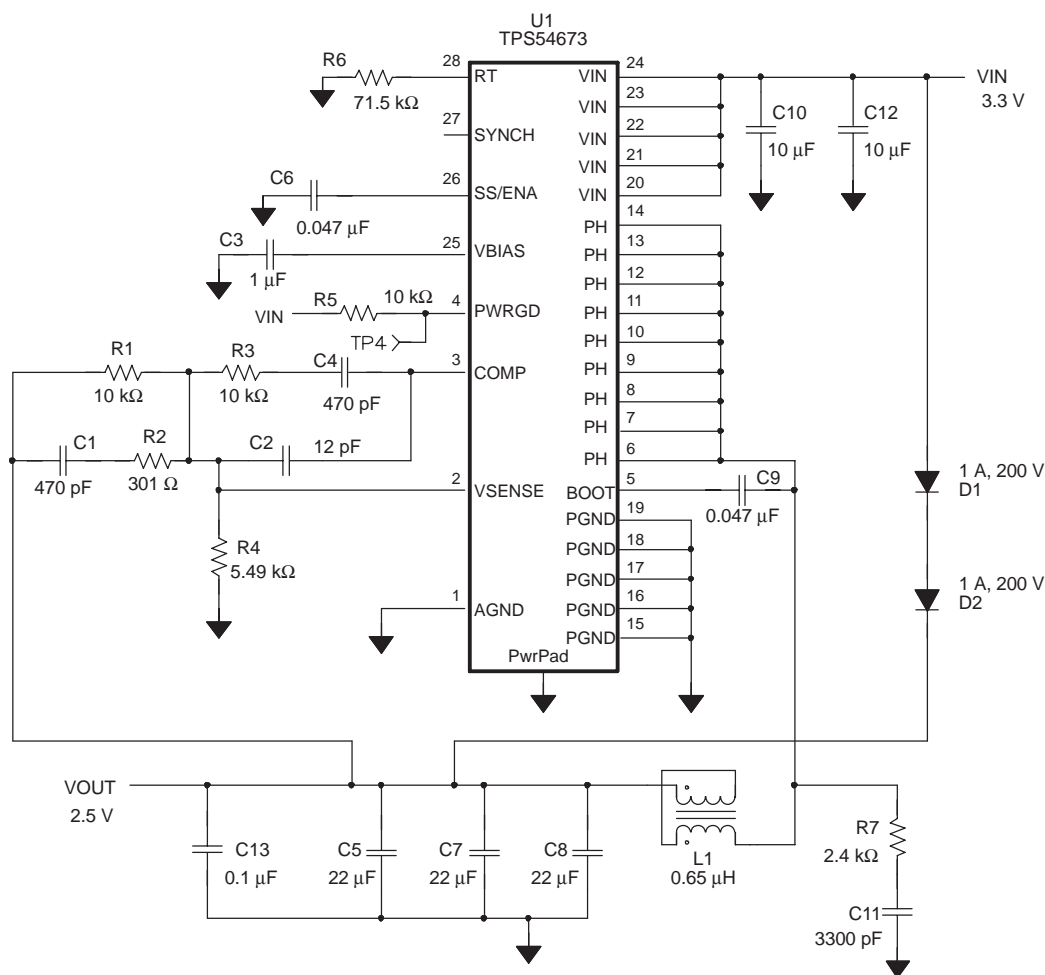
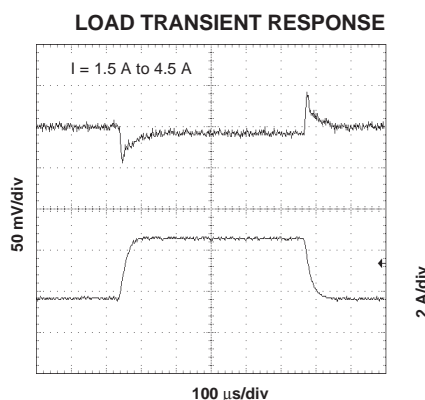

Figure 10. Application Circuit
Figure 19
(1) Specified by design
(2) Static resistive loads only
(3) Specified by the circuit used in Figure 10
(4) Matched MOSFETs low-side rDS(on) production tested, high-side rDS(on) specified by design
Figure 10 shows the schematic diagram for a typical TPS54673 application. The TPS54673 (U1) can provide up to 6 A of output current at a nominal output voltage of 0.9 V to 3.3 V, and for this application, the output voltage
Data shown is for the circuit in Figure 10 with precharge disabled (D1 and D2 removed) except for slow-start timing of Figure 19. All data is for $V_I = 3.3\text{ V}$, $V_O = 2.5\text{ V}$, $f_s = 700\text{ kHz}$ and $T_A = 25^\circ\text{C}$, unless otherwise specified.